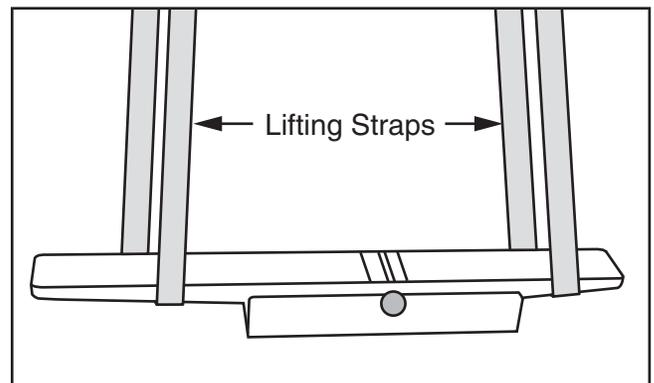

Figure 16. Using lifting straps to lift jointer assembly.
6. Wrap lifting straps around infeed and outfeed table, as illustrated in **Figure 16**, then attach ends to forklift forks or hoist.